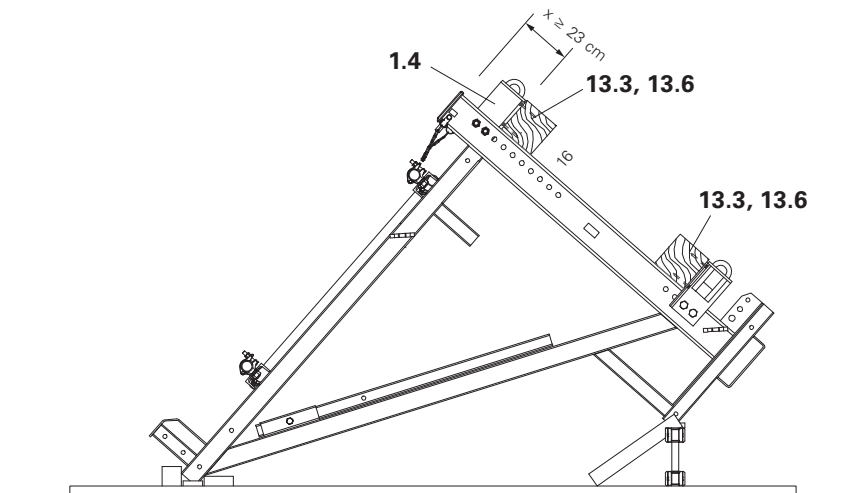

Fig. A1.13
1. Bolt on two Platform Connections CB 160 (1.4) per bracket. (Fig. A1.13)